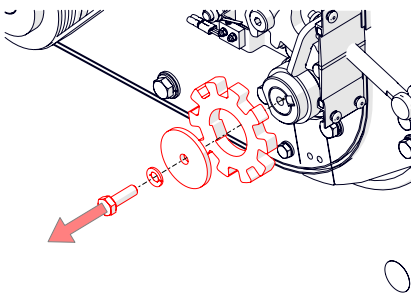

Fig. 25H - Remove the castellated parking brake.
11. On the LH side, locate the castellated parking brake disc. Remove the hex screw securing this [13mm spanner] (Fig. 25H - the shoulder bolt securing the brake may need to be removed prior).